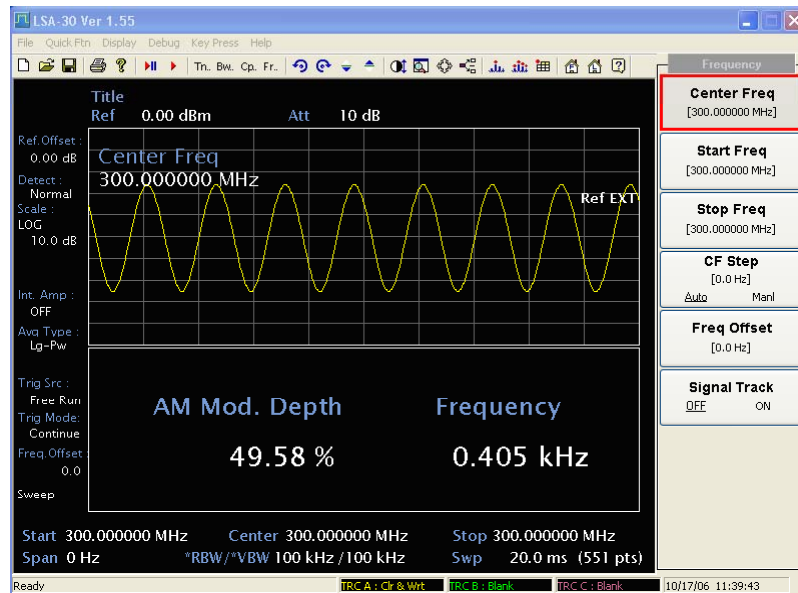

Fig. B-23 Measuring modulation using AM demodulation function
- 4 To demodulate the AM, press [AUX], [AM Demod. ON]. See Fig. B-23.